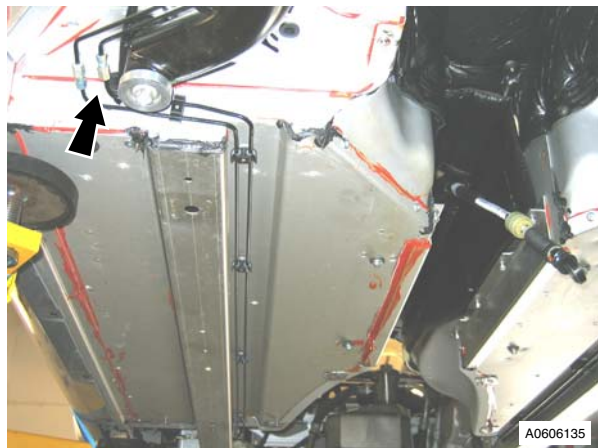

Fig. 2
13. Loosen and disconnect RH/LH brake tube union from rear in line connection (see Fig. 2).